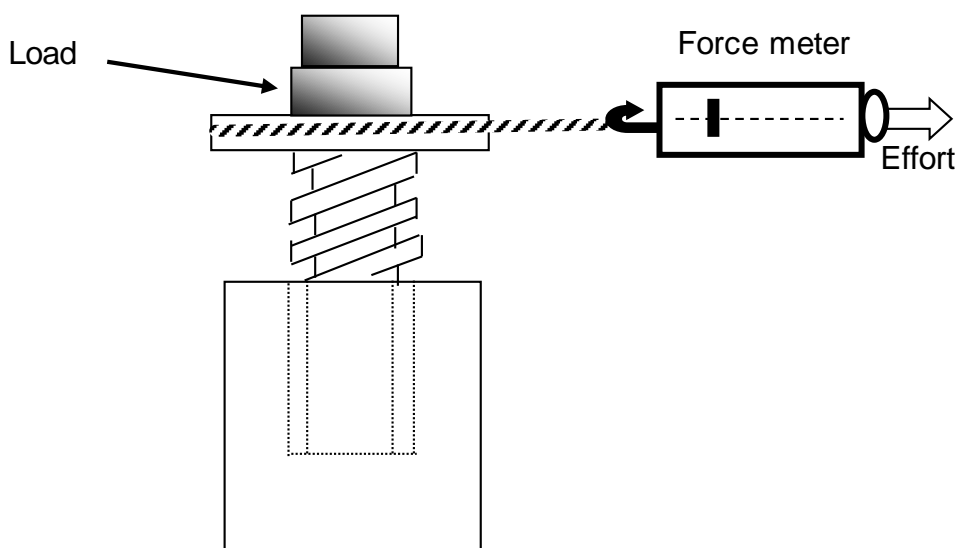

Figure 1 - The Screw Jack
3. Wrap the string around the screw jack platform and attach the force meter to the free end of the string as per figure 1 above.